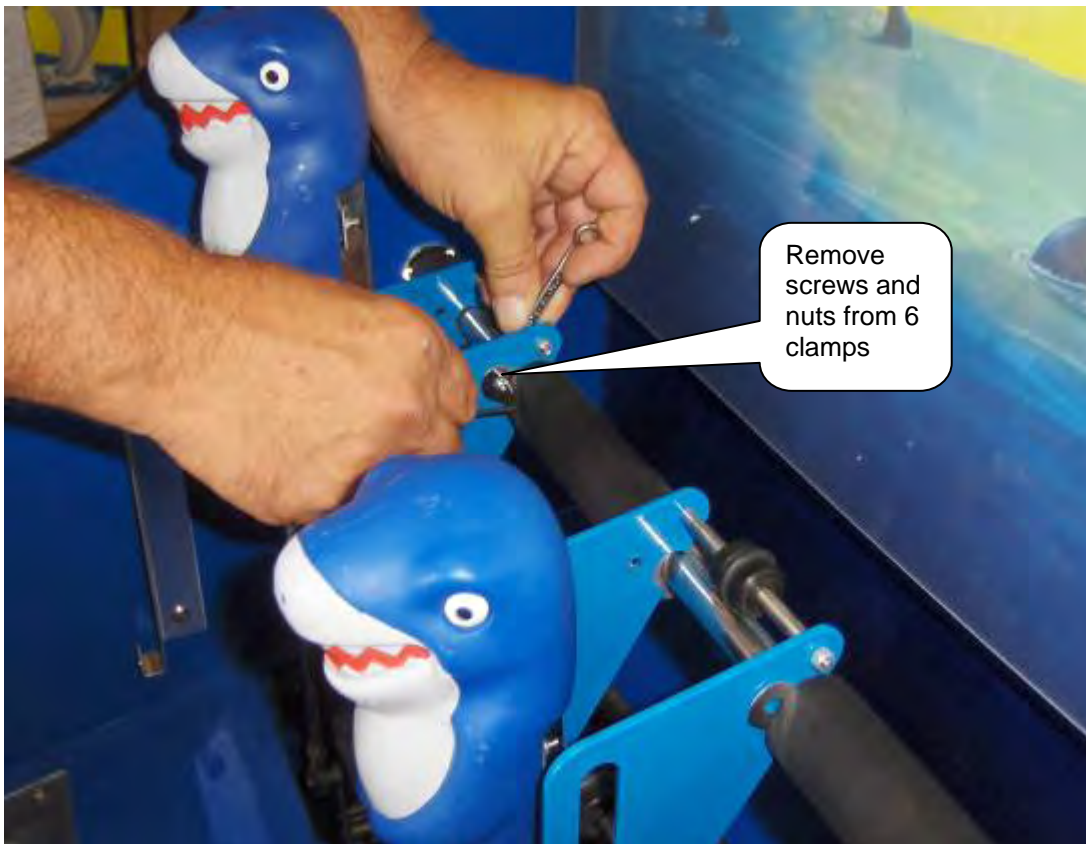

Fig. 9: Removal of pipe clamp screws and nuts
7. Remove 6 pipe clamp screws and nuts holding the shark head top assembly to the pipe. You will need a 7 mm open ended wrench and a small metric Allen wrench. (Fig 9)